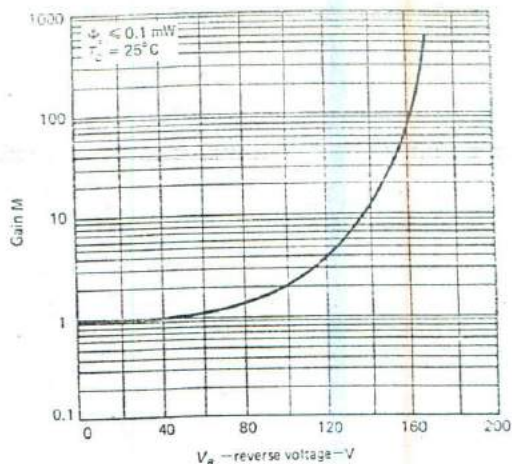

Fig. 14-16 Photodiode gain versus reverse voltage.
An avalanche photodiode (APD) uses avalanche multiplication to amplify the photocurrent created by hole-electron pairs. The PN junction is operated at a high reverse bias voltage needed for avalanche multiplication (refer to Fig. 14-16). Very high multiplication factors (M) can be achieved, but the process is very noisy. The photocurrent signal gain is magnitude-dependent on the reverse voltage, as illustrated in Fig. 14-16. These devices are usually optimized for detection of infrared-radiant energy but are useful from audio to microwave frequencies.